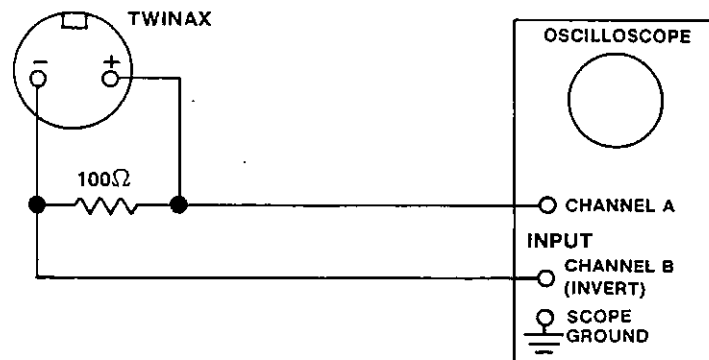

Figure 2.20. Oscilloscope Twinax Connector Test Setup
e. Use a 100 ohm, 5%, 1/2 W, resistor and a calibrated oscilloscope to differentially measure the zero-to-peak voltage on the first LORAN-C pulse of the transmitted pulse group. Ensure that the resistor is placed across the plus and minus pins of the twinax connector (refer to Figure 2.20).